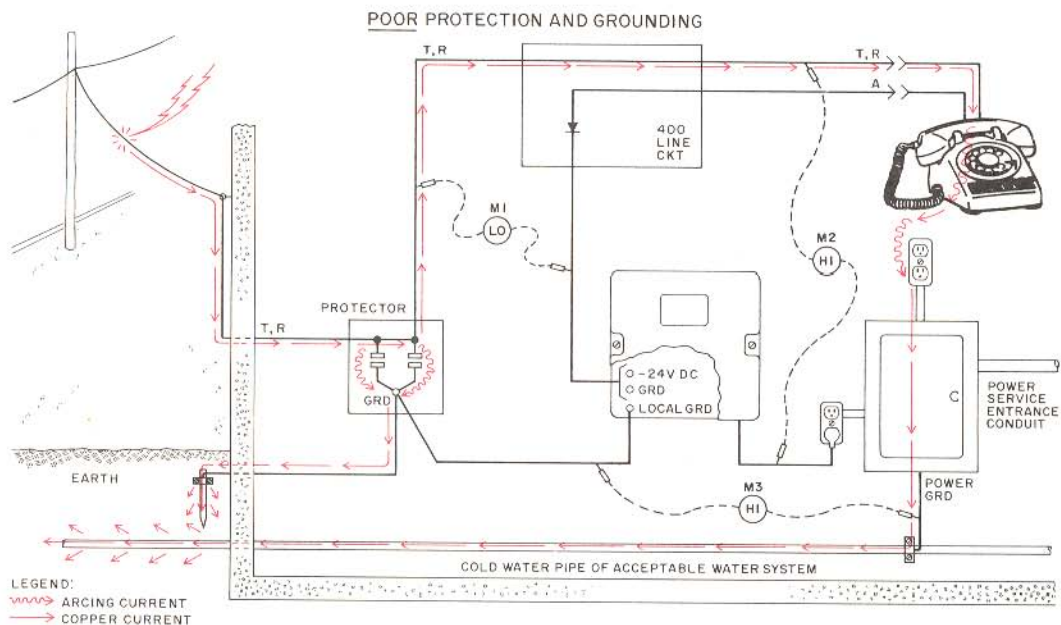

Fig. 14—Protector and KTS Power Supply Grounds Bonded to Ground Rod and AC Power Ground Bonded to Cold Water Pipe
6.06 *Protector and Power Supply Grounded to Ground Rod (Fig. 14):* The grounding arrangement shown in Fig. 14 eliminates any possibility of arcing between the telephone line and the KTS because both the protector and the power supply are grounded to the same point. Meter M1 indicates that a peak voltage equal only to the carbon firing point exists between the telephone line and the KTS equipment. However, a large potential can exist between the KTS and the commercial power system because the latter is connected to a different ground (M2 and M3).